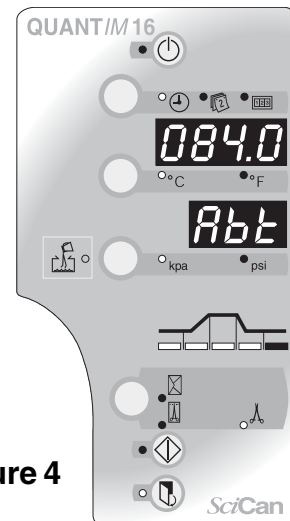

Figure 4
- When the temperature reaches 95°C, the fifth cycle status led will come on and the door led will be illuminated (Figure 4).